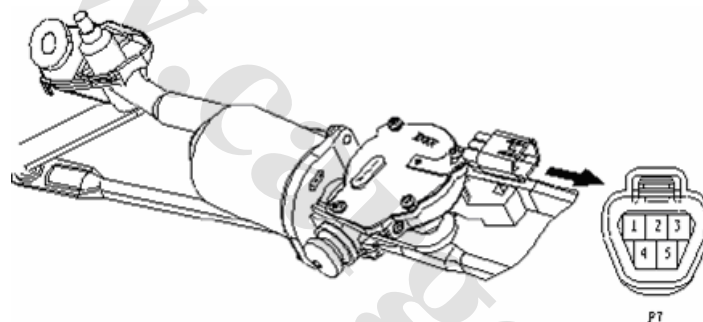

Fig. 4-96
4. Sketch map of wiper motor as shown in Fig. 4-96